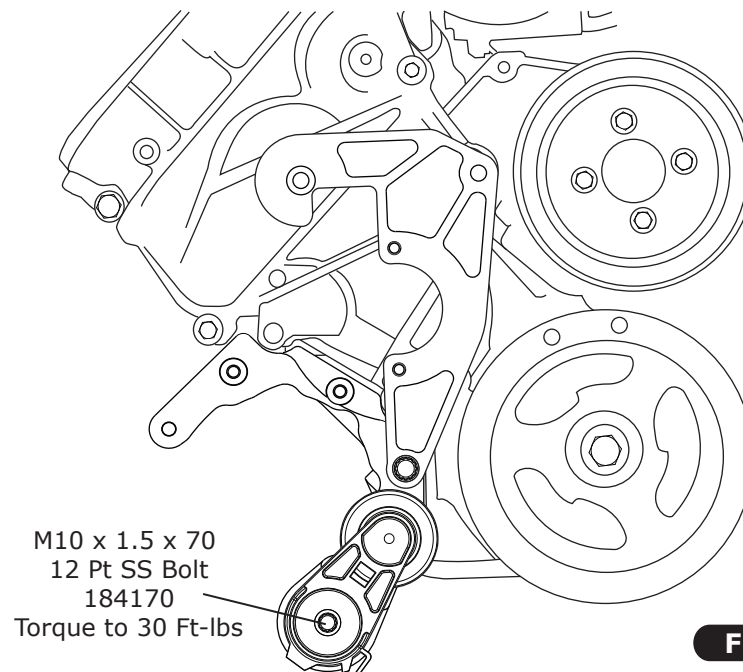

Figure 7
1. Install serpentine belt tensioner onto lower bracket with M10 x 1.5 x 70 12 pt SS bolt (See Figure 7, below)